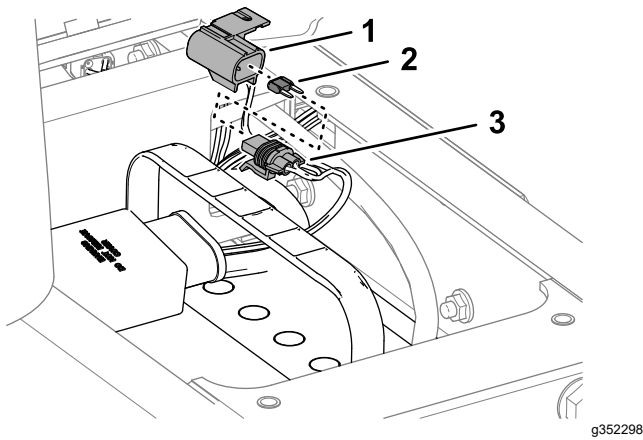

Figure 69
2. Remove the cap from the in-line fuse holder (Figure 69).